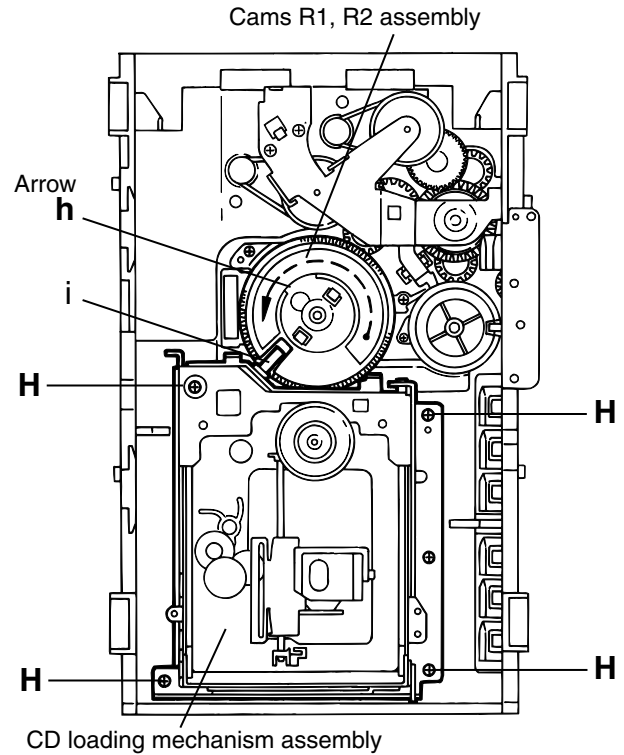

Fig.10
**Removing the CD loading mechanism assembly(See Fig.10)**
1. While turning the cams R1 and R2 assembly in the arrow direction "h" ,align the shaft "i" of the CD loading mechanism assembly to the position shown in Fig.10.